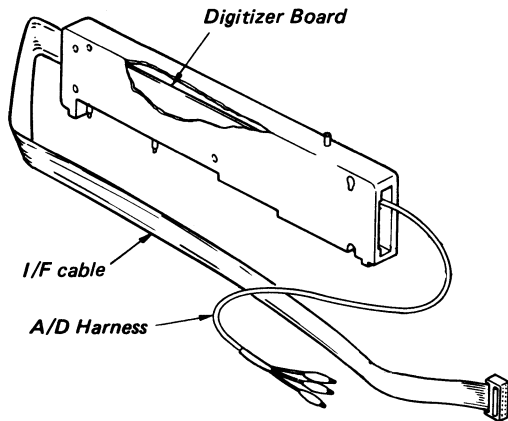

Fig. 2-7 Configuration
- (1) Digitizer configuration (Refer to Fig. 2-7)